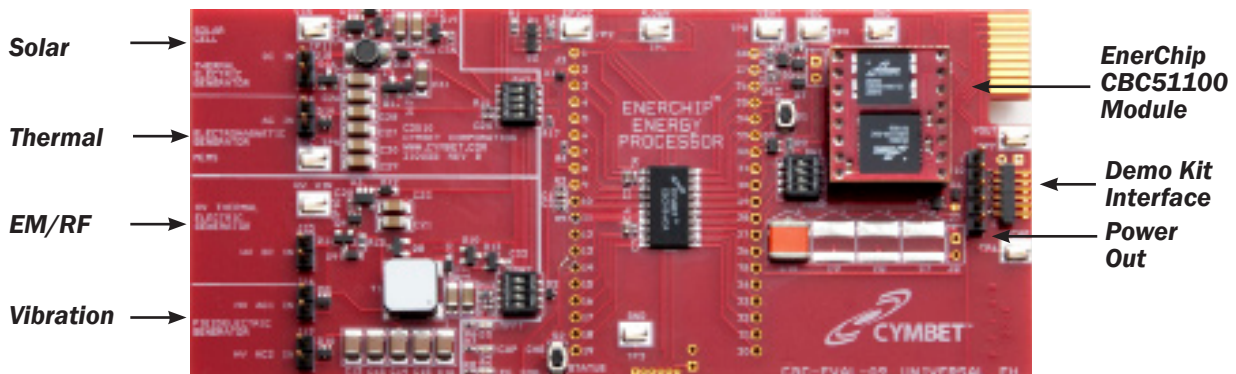

Figure 1: CBC-EVAL-09 Demo Kit - 5 x 2 inches
CBC-EVAL-09 is a universal energy harvesting (EH) evaluation kit that combines any one of multiple EH transducers with the EnerChip™ EP CBC915-ACA Energy Processor and the EnerChip CBC51100 100uAh solid state battery module that has two 50μAh EnerChip solid state batteries connected in parallel. The purpose of this evaluation platform is to enable designers to quickly develop Energy Harvesting applications. The EVAL-09 ships with a solar cell for initial evaluation kit testing. A photo of CBC-EVAL-09 board is shown in Figure 1.